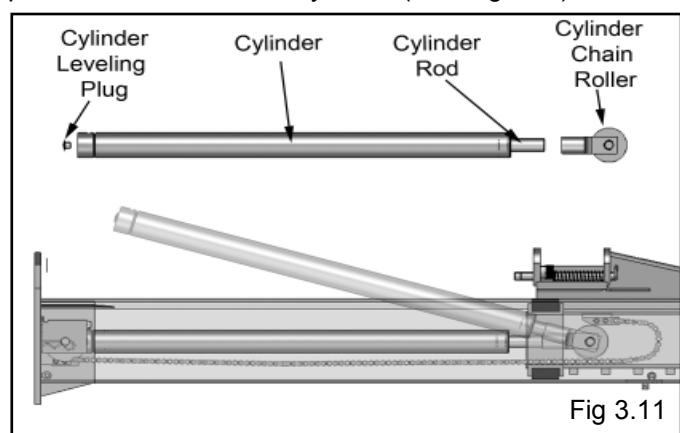

Fig 3.11
13. Install the Cylinder Chain Roller on to the Cylinder Rod. Lay the Cylinder and Roller Assy. into the Column on top of the Chain. Insure that the Cylinder Leveling plug is in place in the base of the Cylinder. (See Fig 3.11)